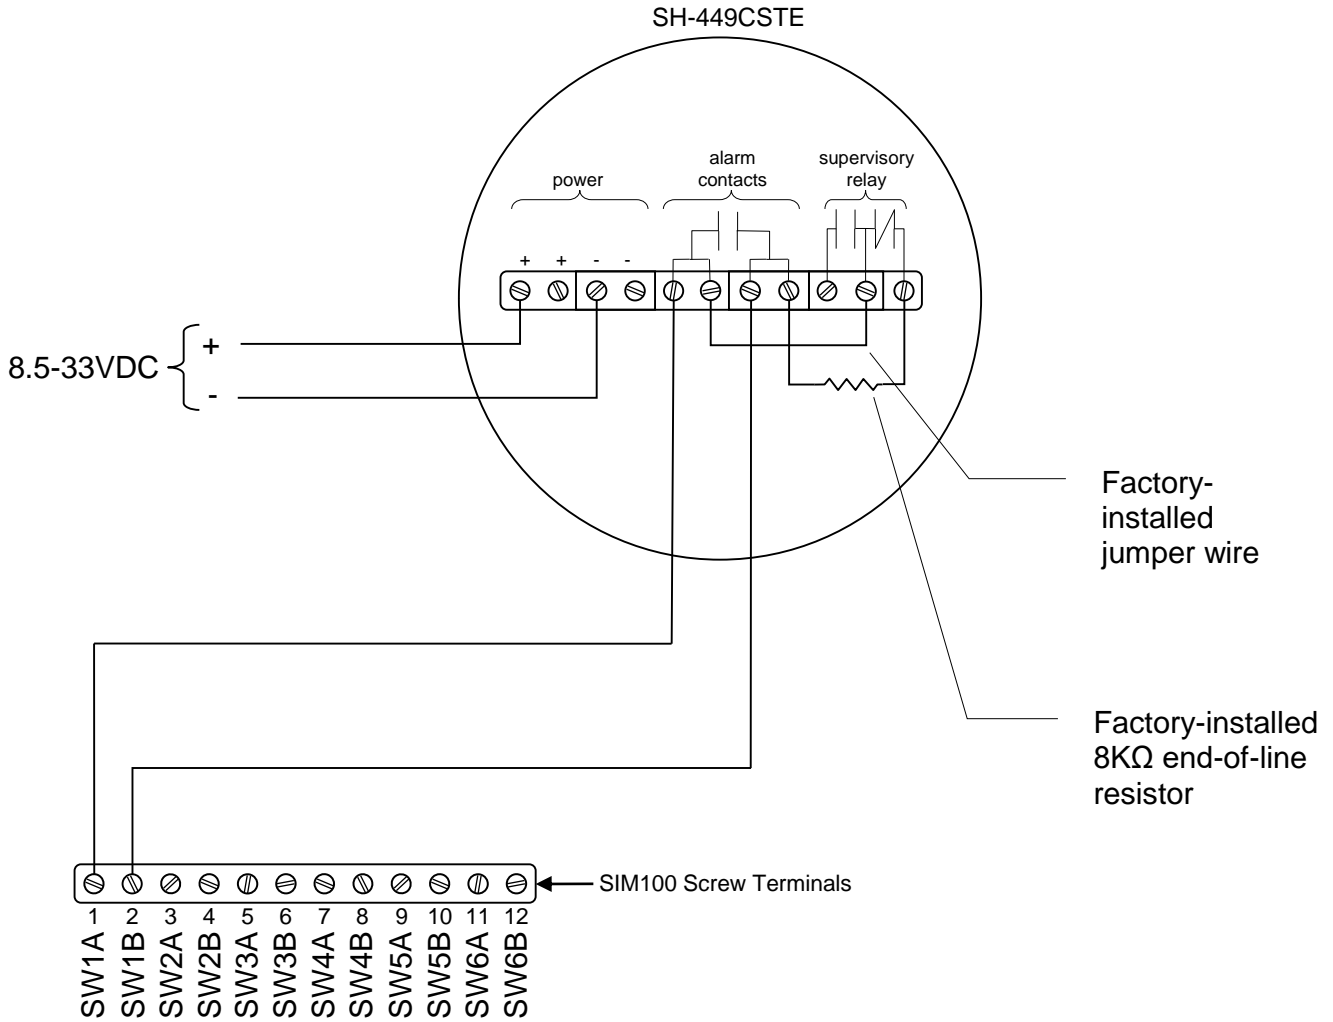

Figure 1 - Wiring Diagram
Please follow these instructions to connect the SH-449CSTE to the NMEA 2000 network via a Maretron SIM100 Switch Indicator Module. The wiring diagram appears in Figure 1 on the reverse side of this page. The diagram shows a connection to channel #1, but connections to other channels are similar.
1. Connect the SH-449CSTE power terminals to an 8.5-33VDC supply that is independent of the NMEA 2000 network power supply as shown in Figure 1. Powering the unit separately from the NMEA 2000 network allows the detector to work even when the NMEA 2000 network is powered off.
2. Connect the two alarm contact terminals to a free switch channel. The example in Figure 1 shows the detector connected to switch channel 1, terminals SW1A and SW1B.